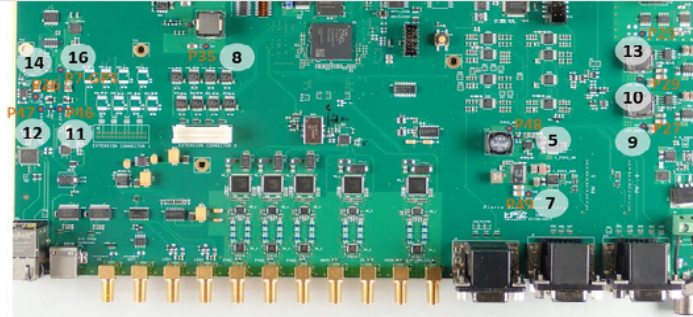

Fig. 2: Test points for voltage measurements (click to enlarge)
3. Check for short circuits against ground with voltmeter (DVM) at the following test points (see Fig. 2)